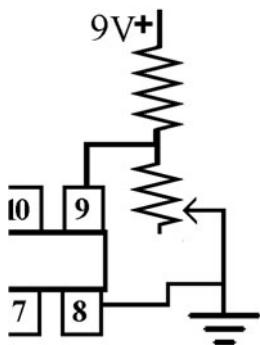

Figure L39-8
10. Modify your breadboard slightly to represent the changes shown in Figure L39-8. This allows you to adjust the voltage using a voltage divider. If the voltage is kept stable at the input to pin 9, what happens to the output at pin 4?